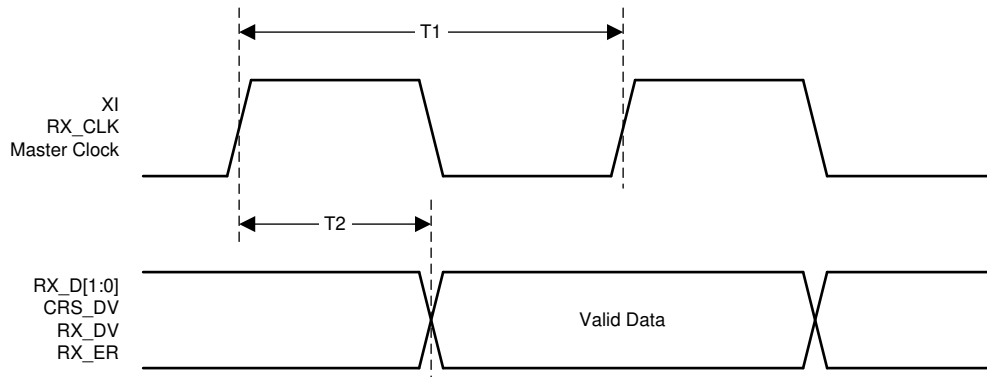

图 7-10. RMII Receive Timing
- (1) Ensured by production test, characterization or design.
(2) See 图 7-10.